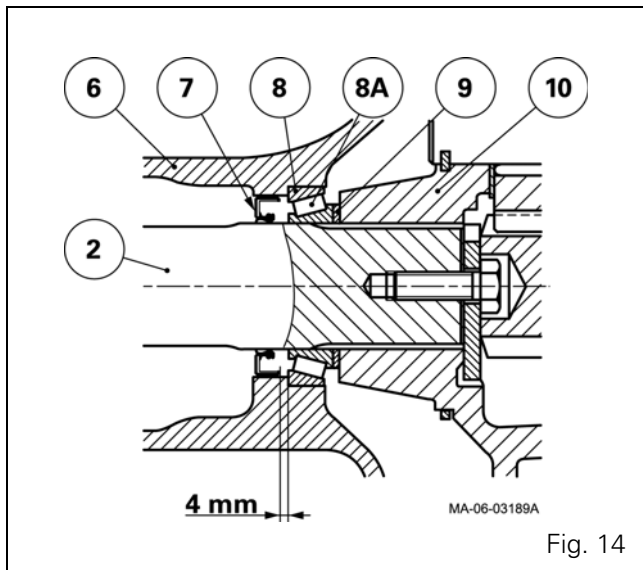

Fig. 14
69. Replacing the seal (7):
Without shaft replacement (2): to avoid the seal lip from bearing on the same place on the shaft, insert the seal 4 mm from the shoulder of the cup (8) (Fig. 14).